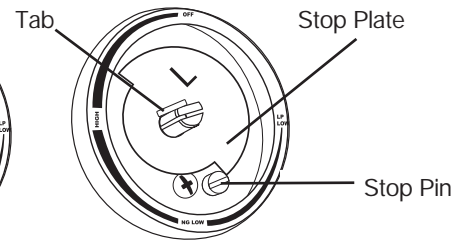
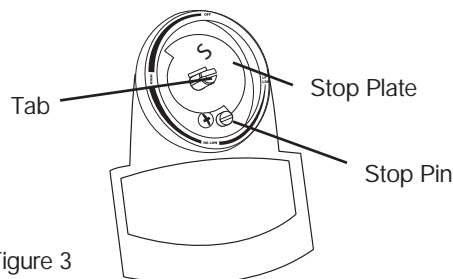

Figure 2
Figure 3
Figure 1 shows valve stem and bezel with the control knob removed. Take six large stop plates from the component card and place them over the valve stems as illustrated (Figure 2). Take the small stop plate from the component card and place it over the smoker (Figure 3). Verify the tab and the stamped letter on the stop plates face out. Replace control knobs when finished.
**⚠ WARNING:** We recommend and request that you do not remove the control panel in order to access the LP gas orifices. If you choose to remove the control panel, you must replace the control panel bezels exactly as illustrated in Figure 2. Failure to replace the bezels as illustrated could lead to personal injury and/or property damage.